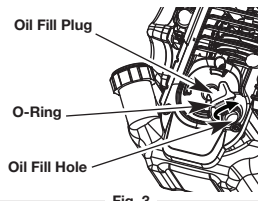

Fig. 3
3. Remove the oil fill plug from the crankcase (Fig. 3).